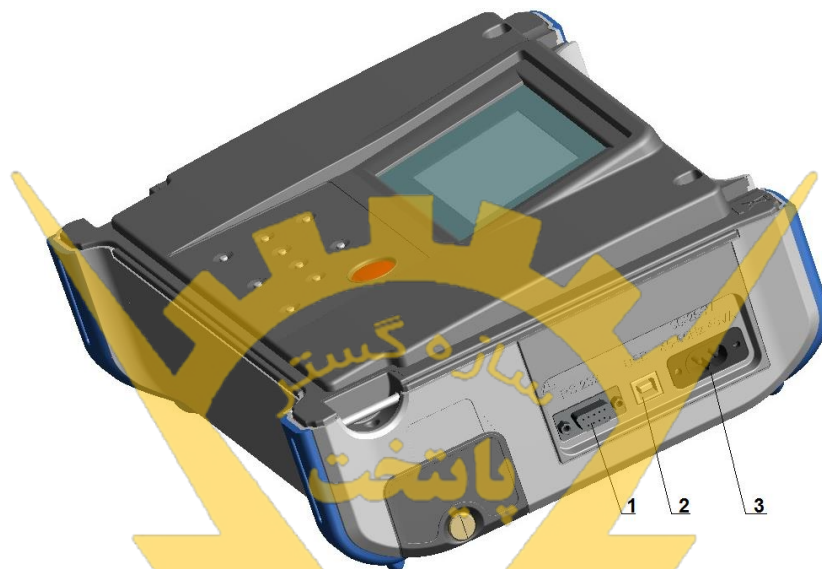

Figure 3.3: Communication and mains connectors
- Mains socket, for connection of mains supply cable (Figure 3.3),
- Communication terminals (USB and RS232) (Figure 3.3),